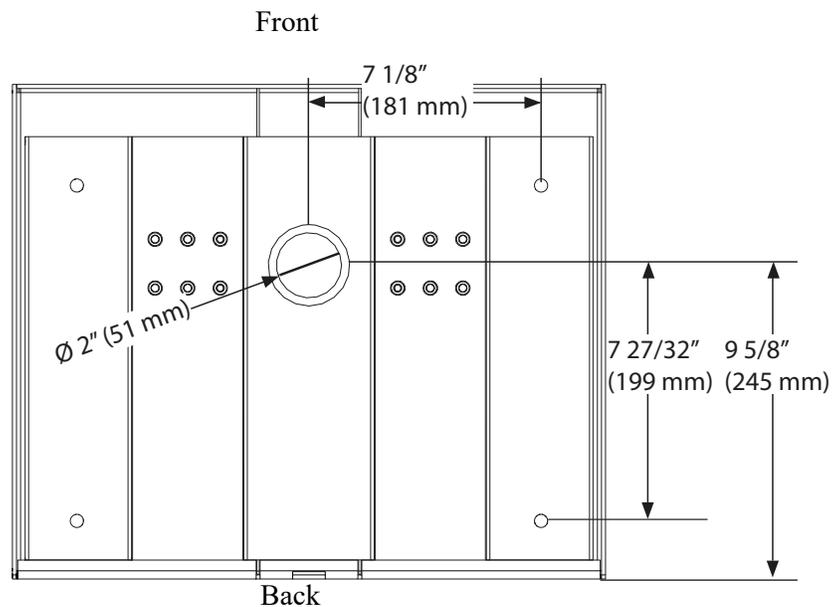

Figure 20. TX3-T-KIOSK2 dimensions (from below)
Figure 20 shows the dimensions of the floor bracket.
5. Secure the floor bracket to the floor using 4 bolts in the floor bracket mounting holes shown in Figure 20. The holes are $13/32''$ (10 mm) in diameter.